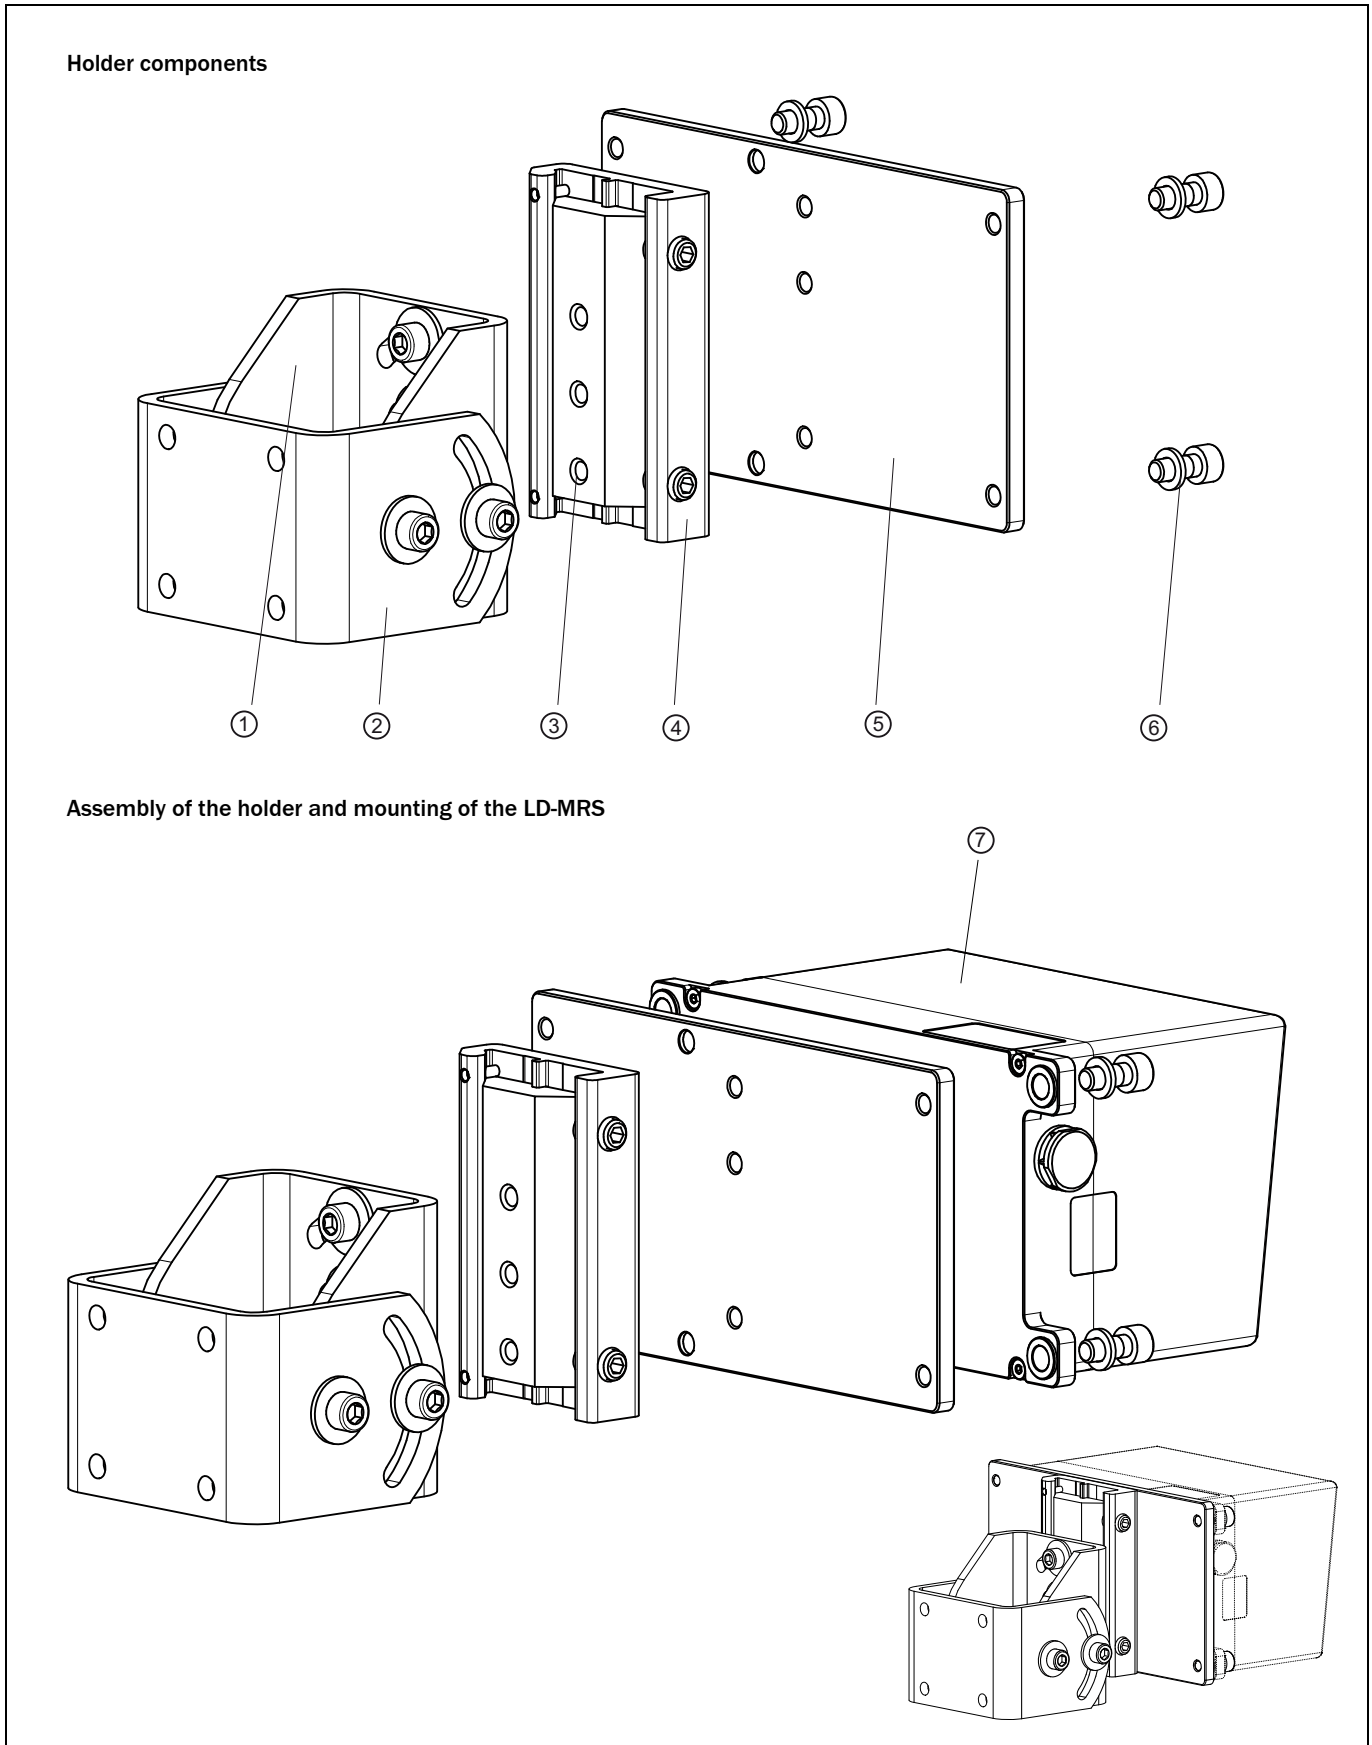

Fig. 4-2: Mount the LD-MRS on holder Part No. 1047429
- ① M6 x 20 screws, self locking (4)
- ② Retention bracket 1
- ③ Retention bracket 2
- ④ M4 x 10 screws, self locking (4)
- ⑤ Body with frame
- ⑥ LD-MRS
- ⑦ Holder
**Recommendation** Only mount the LD-MRS on the weather resistant cover Part No. 2058033 when the holder Part No. 1047429, see Abb. 4-2, is used.